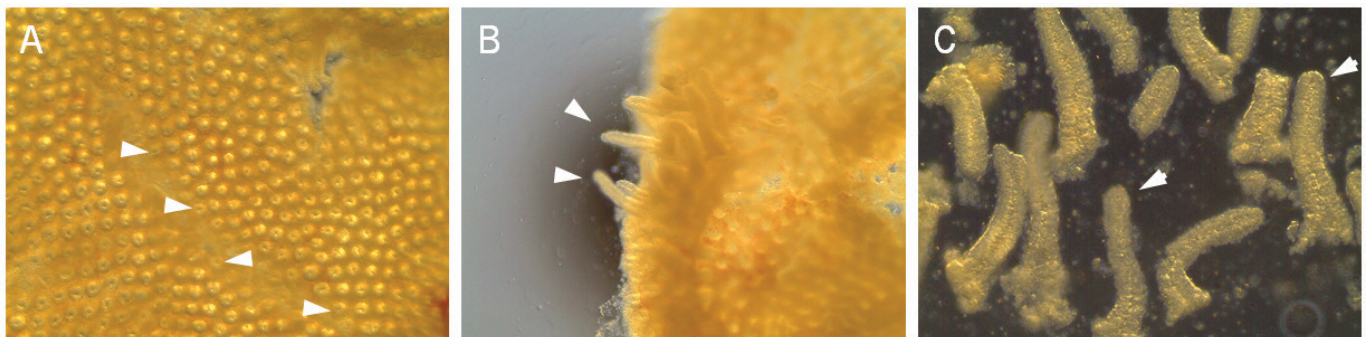

Figure 5: Intestinal Epithelium after Dissection from Surrounding Stroma and Adipose Tissue.
- Observe final epithelial tissue under high magnification to verify the presence of key cyto-architectural components found within the organ of dissection, such as intestinal crypts, when dissecting intestinal epithelia (**Figure 5**).